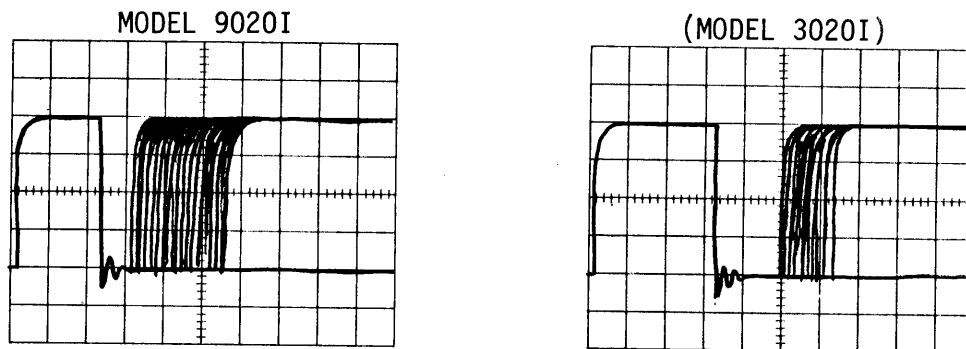

Figure A3-1. Differentiator Symmetry/Balance
**A3.5.1 Differentiator Symmetry/Balance (R27) (Figure A3-1)**